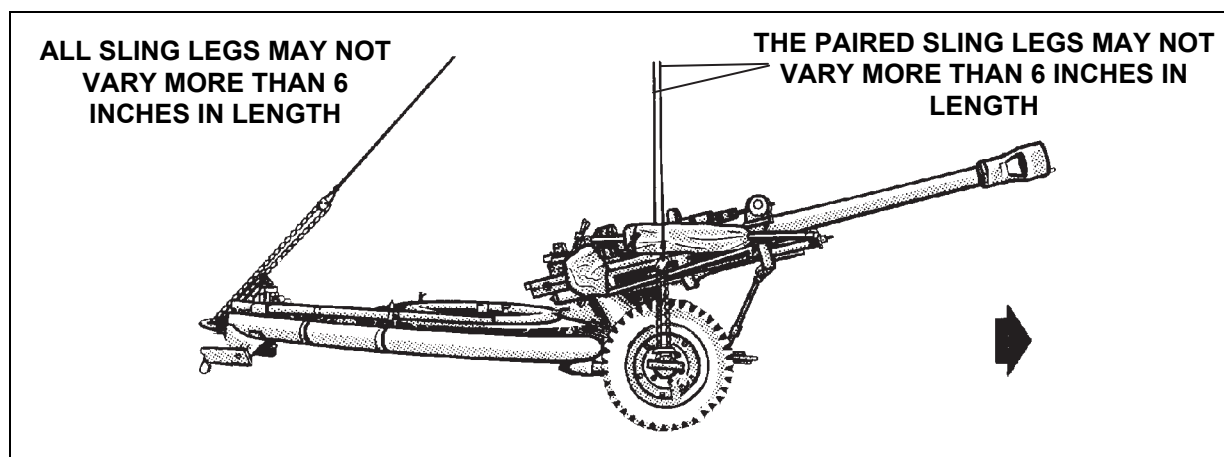

Figure 6-11. Load with Three Lift Points
- You may also use this method when hooking up a load with only three lift points (figure 6-11). Route the extra chain leg through one of the hookup points and use the same chain link